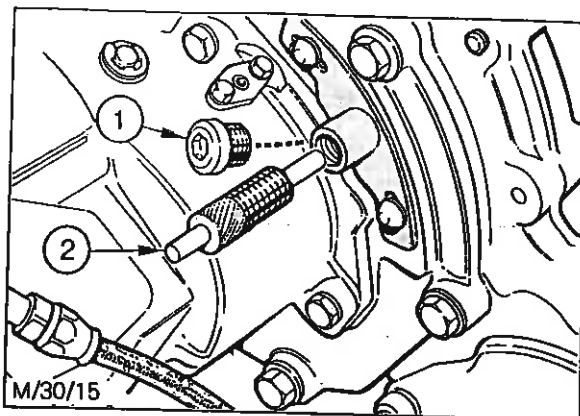

Fig. 33 - Injection Pump Timing - Automotive and G.P. Governed Pumps
3. Remove the blanking plug from the timing bush or aperture on the pump mounting flange - refer to Fig. 33 or 34 as appropriate.
4. Rotate the pump drive gear until the timing hole is centred in the bush or flange aperture then screw the timing tool (23-507 or 23-504) into position - see Fig. 33 or 34 as appropriate. Rotate the drive gear slightly as necessary to engage the tool plunger in the hole in the gear.